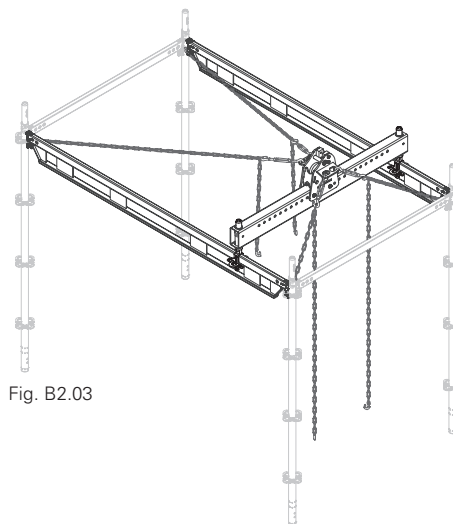

Fig. B2.03
- does not marry up with the load-bearing substructure, see Fig. B2.03.